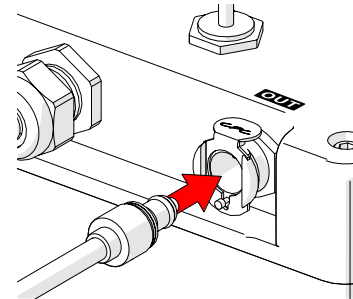

Fig. 3 - Connect irrigation kit to outlet
- Connect the irrigation kit (sold separately) to the outlet (Fig. 3).